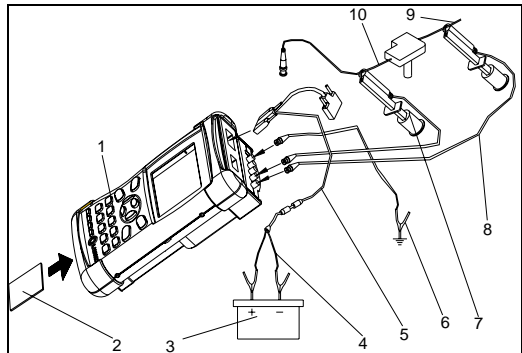

Fig.4-10
**CONNECTION 5:** The high-tension wire of one plug is located outside and that of another plug is hidden in the coil. The primary lead can be found. In this case, the unit can test the primary and secondary ignition waveform. The connection is as shown in Fig.4-10. When such connection is used to test the secondary ignition waveform, select primary trigger mode to get the very stable secondary ignition waveform. If the primary negative lead of the ignition coil can't be found, select the secondary trigger mode to get the secondary ignition waveform. To test the high-tension